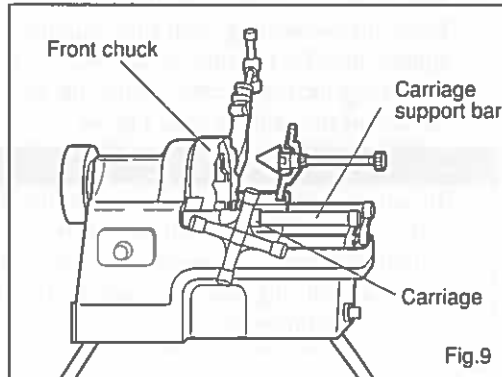

Fig.9
- 2) Pull the carriage completely towards the front chuck. (See Fig. 9)